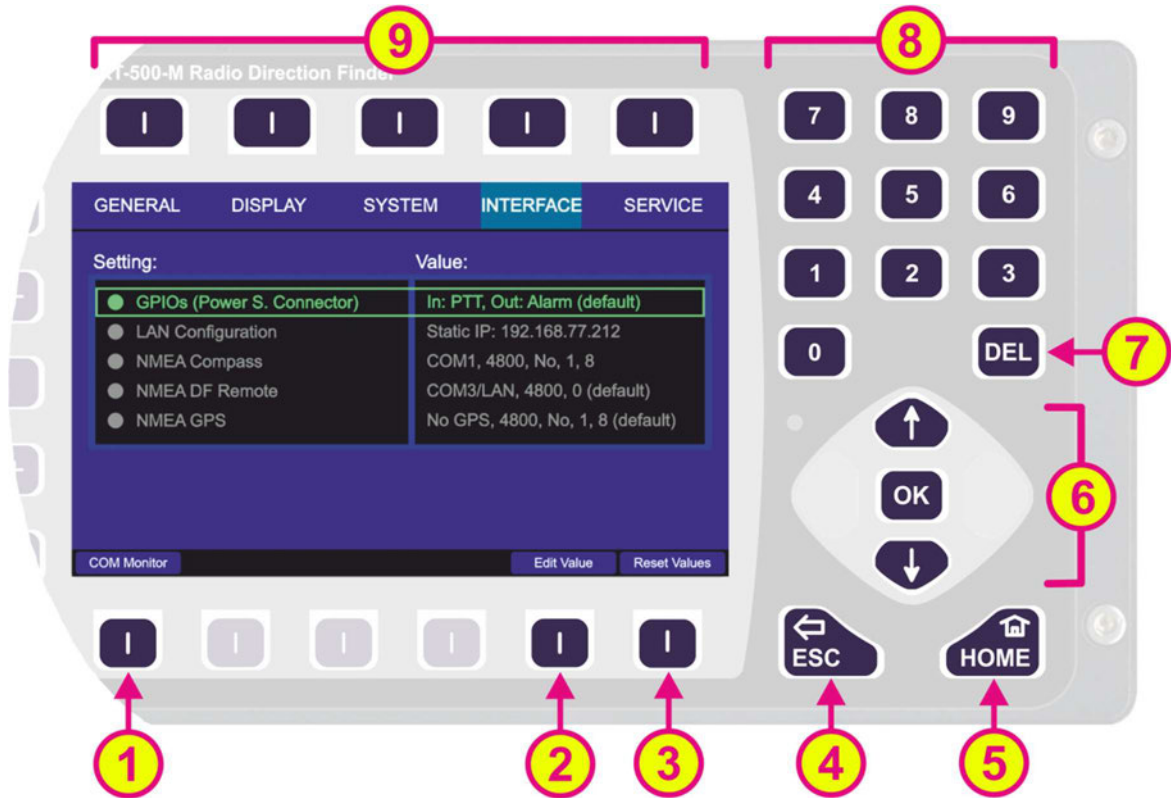

Figure 142. Setup page. Interface settings
- Press the button “OK” or hotkey “Edit Value”, while the setting “NMEA DF Remote” is marked (s. Figure 142).
- Press the button “OK” or hotkey “Edit Value”, while the setting “LAN Configuration” is marked (s. Figure 142).